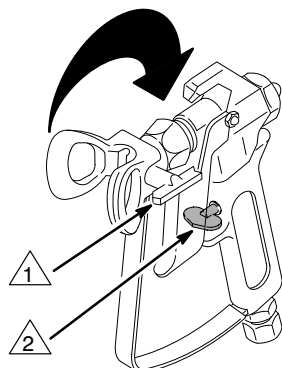

Fig. 5 0137
1. If the spray tip clogs, release the gun trigger, engage the gun safety latch, relieve pressure, and rotate the RAC IV switch tip 180°. See Fig. 5.